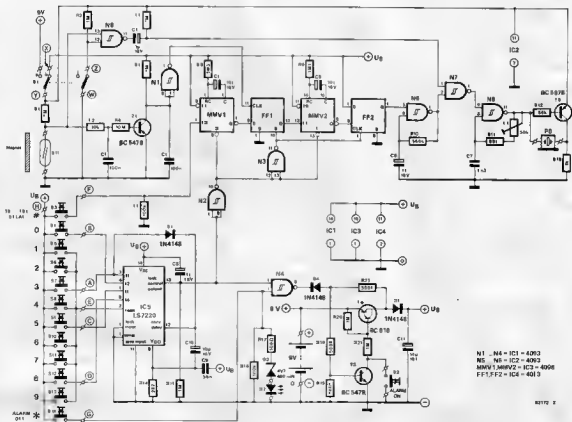

Figure 2. The complete circuit. As drawn here, the code for deactivating the alarm is 3058; this can be changed to any other four-digit number.
Figure 2 shows the circuit diagram of the complete alarm. As a result of depressing S2, T4 conducts. This in turn provides base drive for T3: the circuit latches 'on'. Initially the input of N2 is pulled high, via C8. This caters for power-up reset, after all we do not want the alarm to sound instantly!
The printed circuit board is shown in figure 3. Any type of keyboard will do, as long as it is possible for all the keys to be connected to a common rail (see figure 2). For this reason a so called matrix keyboard is unsuitable. The code given by the connections shown in figure 2 is merely a guide line. Any four digit code can be programmed by connecting the appropriate keys to the 11...14 inputs of IC5. Remember to connect all the other keys to the reset pin (E). Potentiometer P1 is used to set the frequency of the buzzer tone, to obtain maximum output.